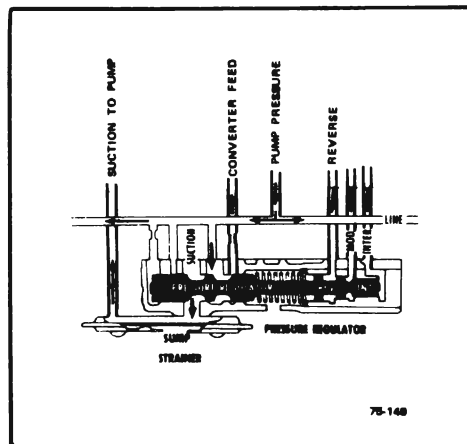

Figure 75-16 - Pressure Regulator Valve
d. Pressure Regulator Valve (See Figure 75-16)